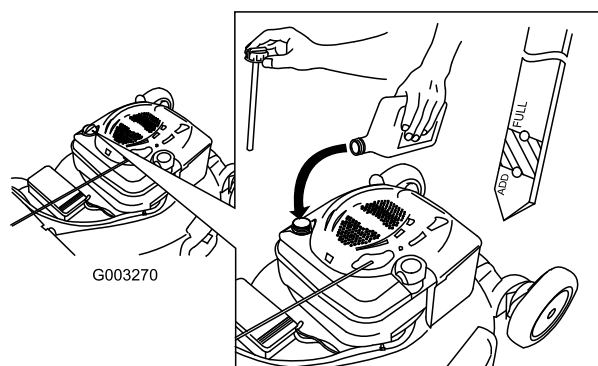

Figure 36
4. **Slowly** pour oil into the oil fill tube until the oil level reaches the Full line on the dipstick (Figure 36). **Do not overfill.** (Max. fill: 20 oz. (0.59 l), type: SAE 30W detergent oil with an API service classification of SF, SG, SH, SJ, SL, or higher.)